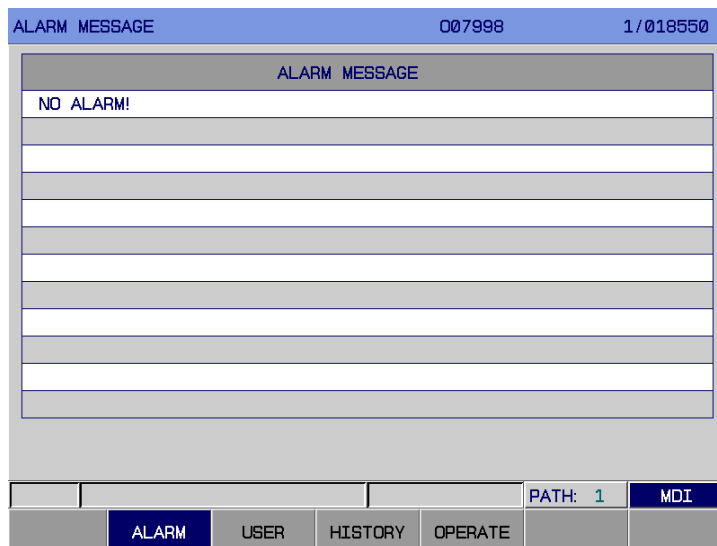

Fig. 3-7-1
and 【OPERATE】 , all of which can be viewed by the corresponding soft keys (See Fig.3-7-1 to Fig.3-7-4) . Whether the page is switched to alarm page when an alarm occurs can also be set by bit parameter No: 24#6.
1. Alarm page In <ALARM> page, press soft key 【ALARM】 to enter this page, which is shown in Fig.3-7-1.